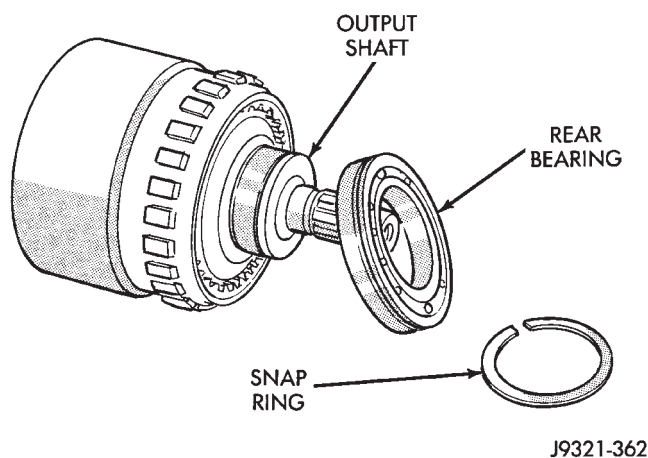

Fig. 261 Rear Bearing Removal
(8) Remove rear bearing from output shaft (Fig. 261).